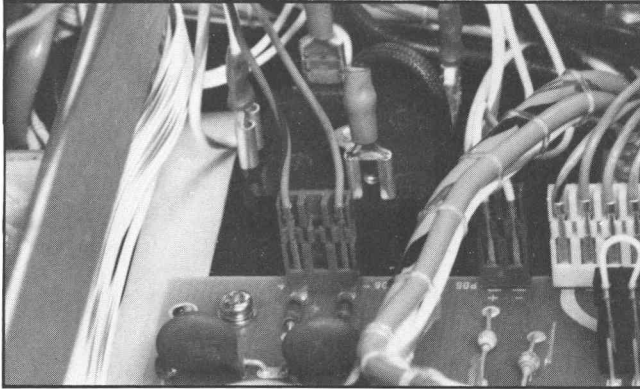

Fig. 3-8. Installing the High Voltage Connector.
2. Connect the two-pin harmonica connector in place on the Power Regulator board, making certain that the wires will not interfere with the axis cables; then position the platen on the frame (Fig. 3-8).